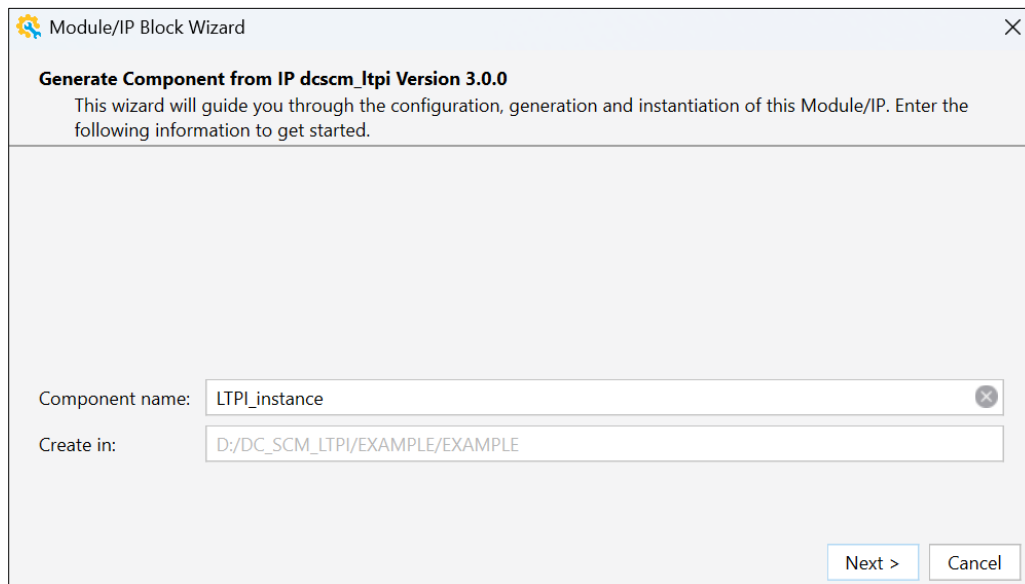

Figure 7.1. Module/IP Block Wizard
2. In the **IP Catalog** tab, double-click **server_ltpi** under **IP, Connectivity** category. The **Module/IP Block Wizard** window opens, as shown in Figure 7.1. Enter values in the **Component name** and the **Create in** fields and click **Next**.